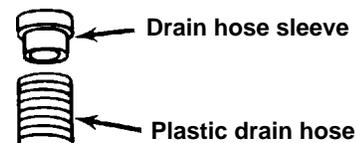

Figure 2
- 2b. Install drain hose sleeve in plastic drain hose. See Figure 2.
**NOTE:** If using plastic drain hose, install drain hose sleeve in plastic drain hose. See Figure 2. Cut to fit the particular drain installation.